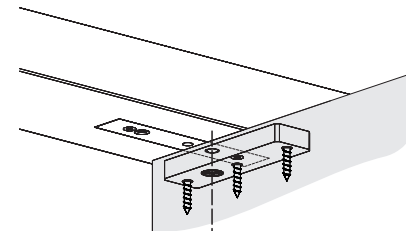

Figure 9
3. Tip door into vertical position aligning frame portion pivot stud to door portion hole. (Figure 9)